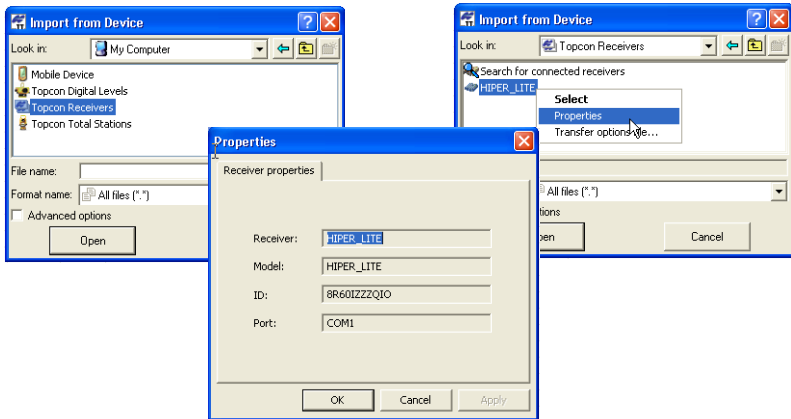

Figure 3-36. Connected Device(s) and Device Properties
3. Click **Topcon Receivers** in the *Import from Device* dialog box (Figure 3-36). Topcon Tools will search for Topcon receivers connected to the computer (COM or USB port). When finished, all receivers connected to the computer will display.
To view information about a receiver, right-click the receiver and click **Properties** (Figure 3-36 on page 3-37).
2. Double-click **Topcon Digital Levels** in the *Import from Device* dialog box (Figure 3-36).